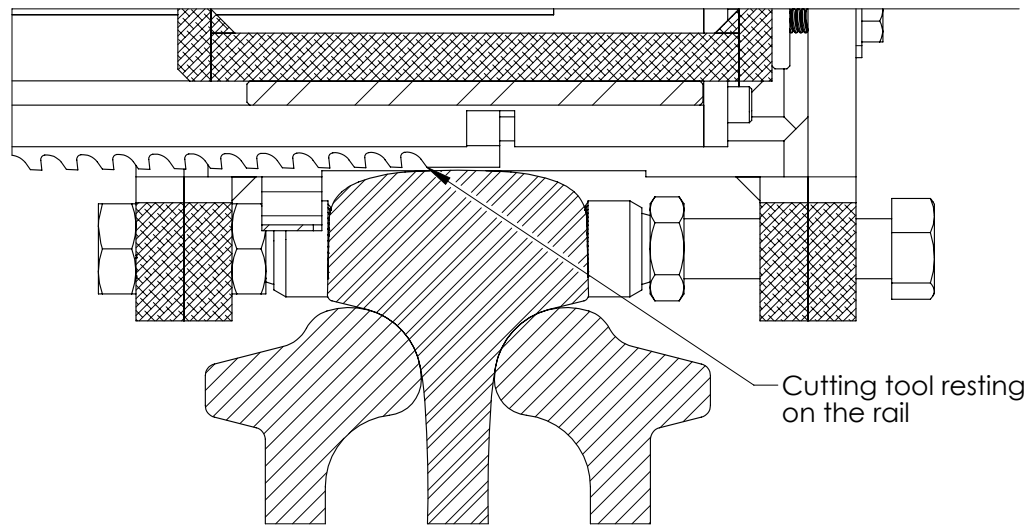

Figure 23: Cutting tool ready to cut
8. Turn the height adjustment knob clockwise until the cutting tool is resting on the head of the rail (**Figure 23**). The Insulated Joint Slotter is now ready to cut.